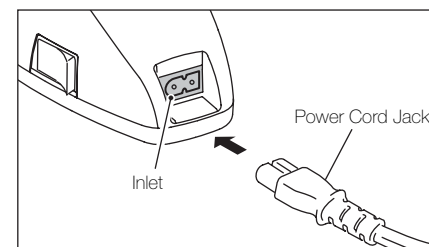

Fig. 4
1. Insert the power cord jack into the inlet at the back of the battery charger. (Fig. 4)